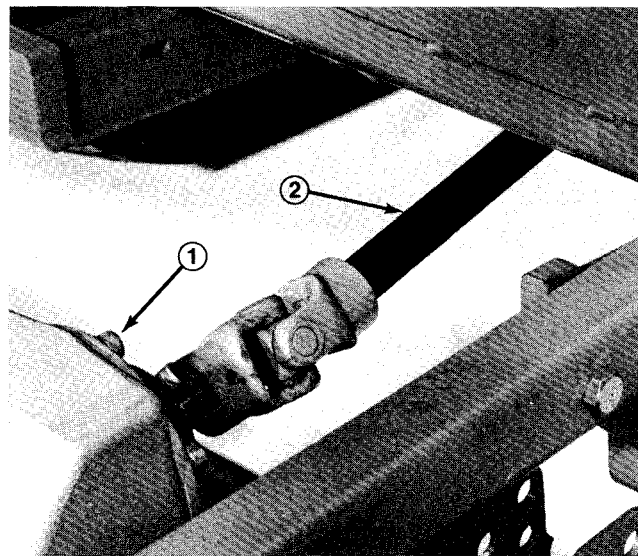

Figure 3
2. Stop engine, remove clevis pins and hairpins from forward and rear height-of-cut brackets (Fig. 8), install cutting unit under carrier frame, align gearcase input shaft with PTO shaft and install shaft (Fig. 3).